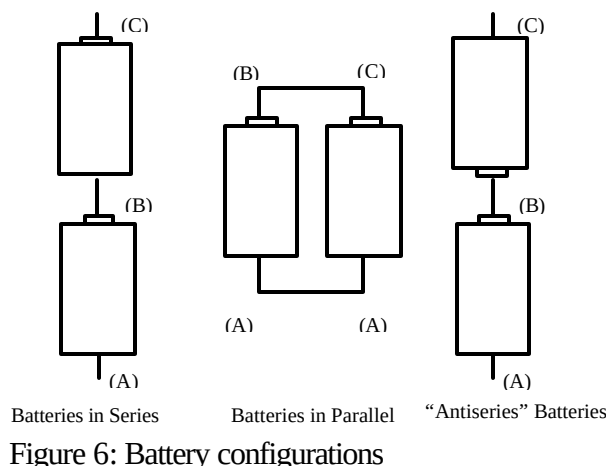

Figure 6: Battery configurations
Now you will investigate different configurations of batteries. Place the batteries in the holders and use double sided alligator clips to connect them as shown in Figure 6. For each configuration measure the voltage between the bottom of the batteries (the point labeled (A)) and the top of each battery (B) and (C). Make sure that the Common or Negative terminal of the voltmeter is connected to point (A). Note: since wires in our circuit are considered ideal conductors, if a wire is connecting two points in a circuit they should have the *same potential* (voltage). Verify this. To make your voltage measurements you can touch or clip your multimeter probes to the battery holders. Make sure you have good electrical contact.